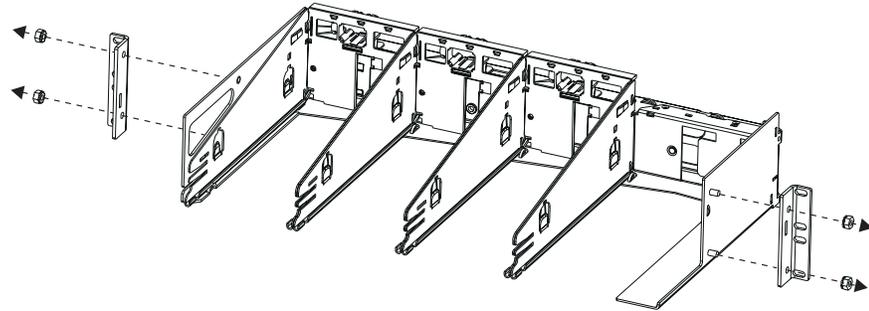

Figure 5-9: Mid-Mount Bracket Removal
1. Remove the mid-mount brackets that are attached to the shelf by unscrewing the two nuts on each bracket using a 5/16-in hex driver. See Figure 5-9. Save the hardware as it will be needed to attach the adapter brackets.